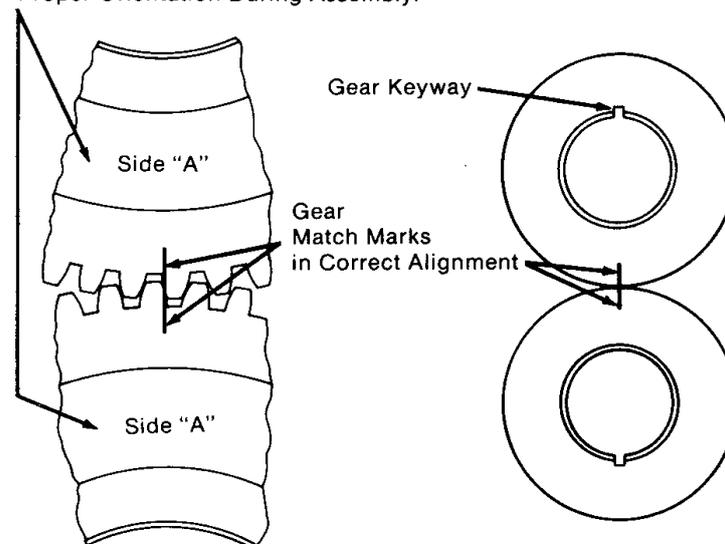

Figure 4.10 Match mark alignment of properly assembled gears.
See Figure 4.10 for match marks and gear assembly. To make sure the gears are properly oriented during assembly, the large diameter chamfer on the bore on one side of each gear must be against the large circumferential lip on each shaft.
4. Install the drive and driven shaft assemblies individually into the housing half. Be sure that the match lines on the side of the gear rim line up when the gears are meshed together (See Figure 4.10).